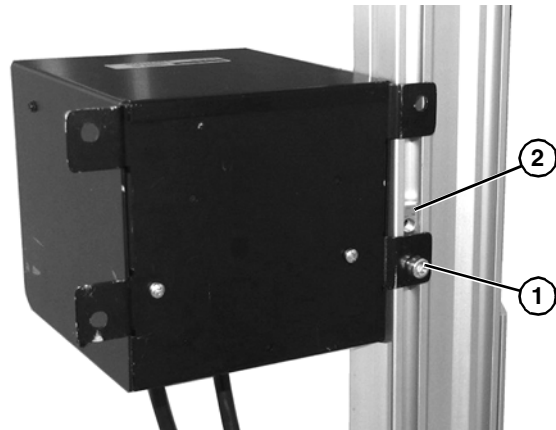

**Figure 22**
1. Place 1st T-bar into T-slot (**Figure 22, item 1**), insert screw (**Figure 22, item 2**) into hole in lower mounting tab and, using a 4 mm hex key wrench (**Figure 22, item 3**), partially thread into T-bar.